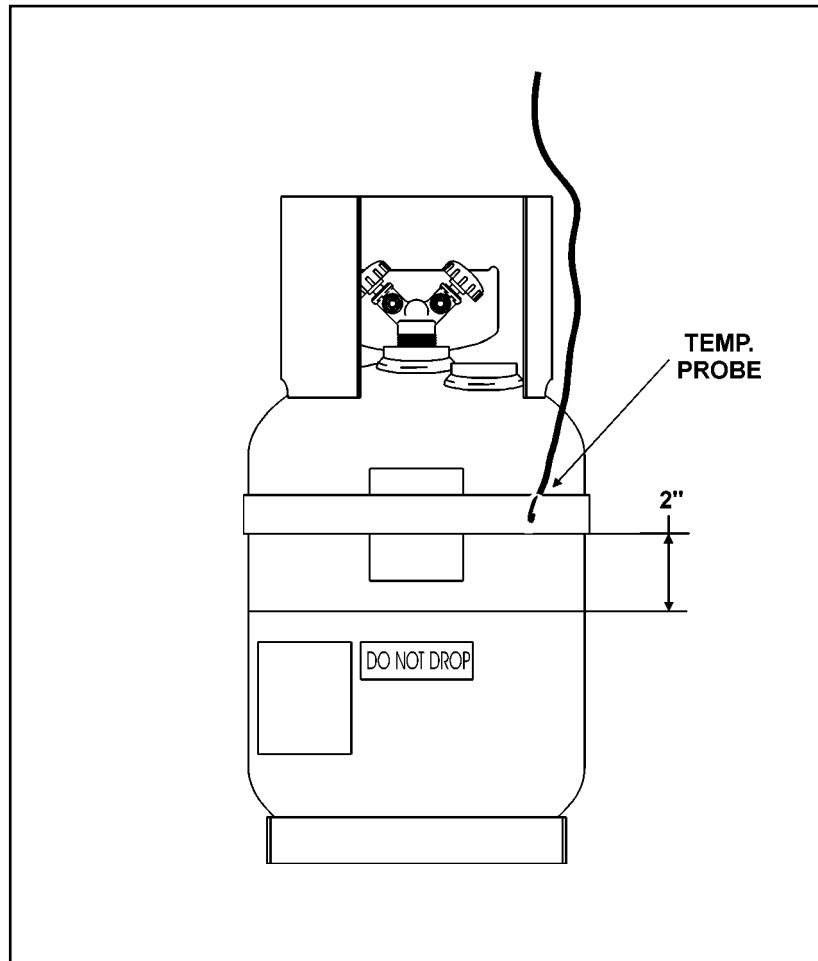

Figure 2-2: Recovery Tank and Temperature Probe
3. Place elastic strap around each tank so that bottom of strap is 2" above tank center weld. *Refer to Figure 2-2.*
4. Slide temperature probe, extending from the cabinet, between tank and strap. *Refer to Figure 2-2.*
- Blue service hose hand valve, or coupler (CW)